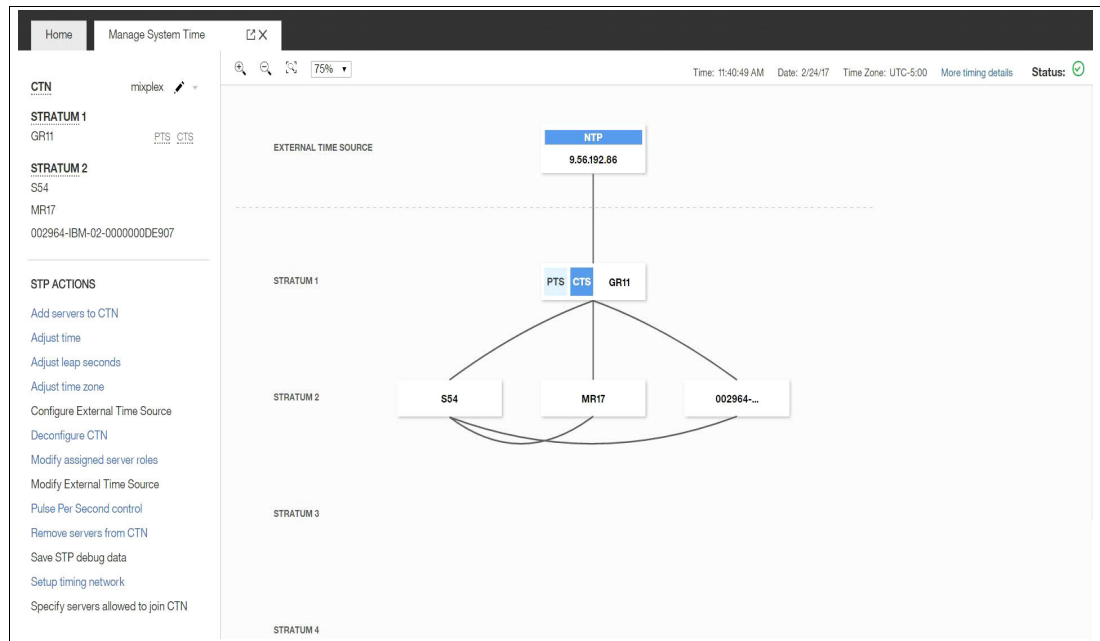

Figure 11-25 CTN topology visible on HMC Manage System Time window
**Attention:** A Schedule leap second offset change to 26 seconds that is scheduled for 12/31/2014 is shown in Figure 11-25. This leap is *not* a real leap second that is released by the International Earth Rotation and Reference System Services. It was temporarily set *only* to show the panel appearance.